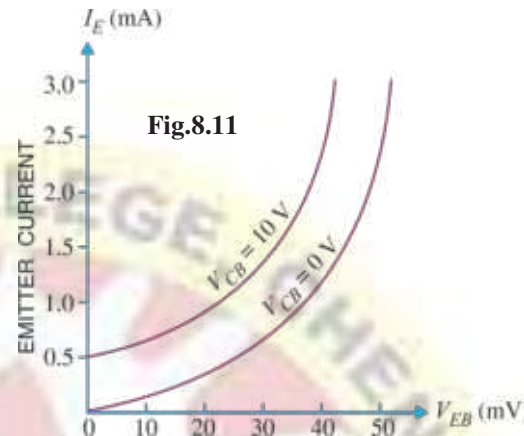

Fig. 3.11
Fig. 3.11 shows the concept of I_{CBO} . In CB configuration, a small collector current flows even when the emitter current is zero. This is the leakage collector current (i.e. the collector current when emitter is open) and is denoted by I_{CBO} . When the emitter voltage V_{EE} is also applied, the various currents are as shown in Fig. 3.11(ii).
1. Input characteristic. It is the curve between emitter current I_E and emitter-base voltage V_{EB} at constant collector-base voltage V_{CB} . The emitter current is generally taken along y-axis and emitter-base voltage along x-axis. Fig. 3.11